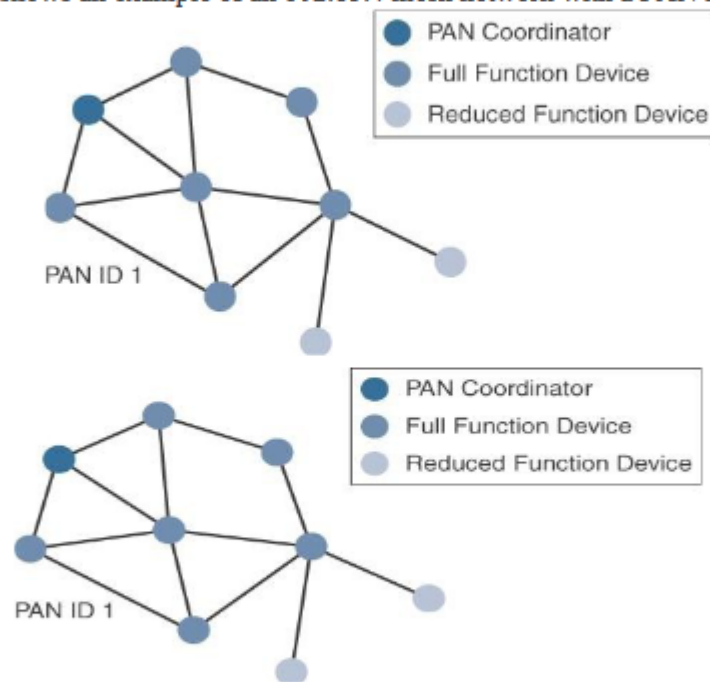

Figure 2.10: 802.15.4 Sample Mesh Network Topology
- Figure 2.10 shows an example of an 802.15.4 mesh network with a PAN ID of 1.